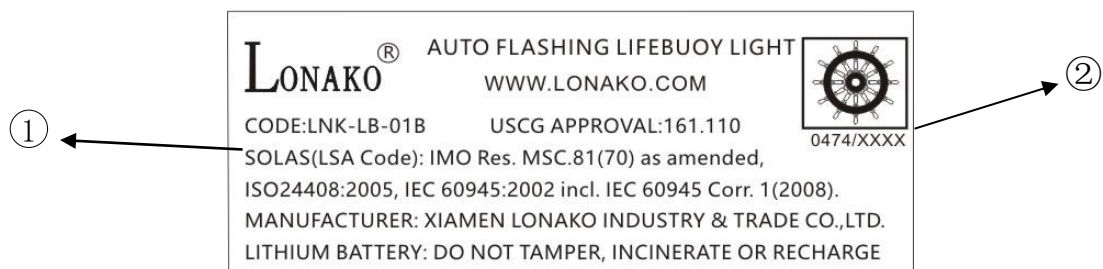

Figure 2 Product Mark
2.4.1 The product mark of LNK-LB-01B Lifebuoy Light is shown in Figure 2 below.